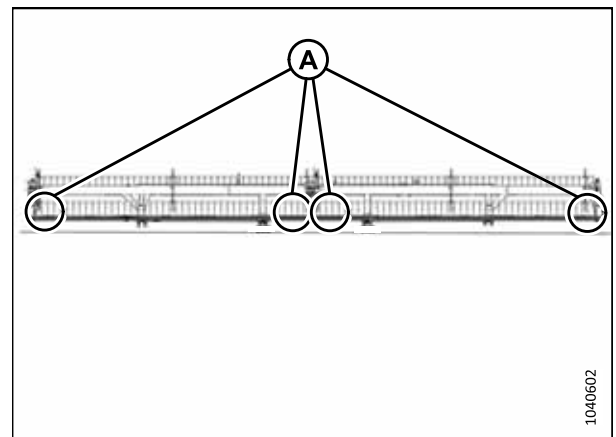

Figure 7.25: Double-Reel Measurement Locations
- Figure 7.25, page 183 – double reel